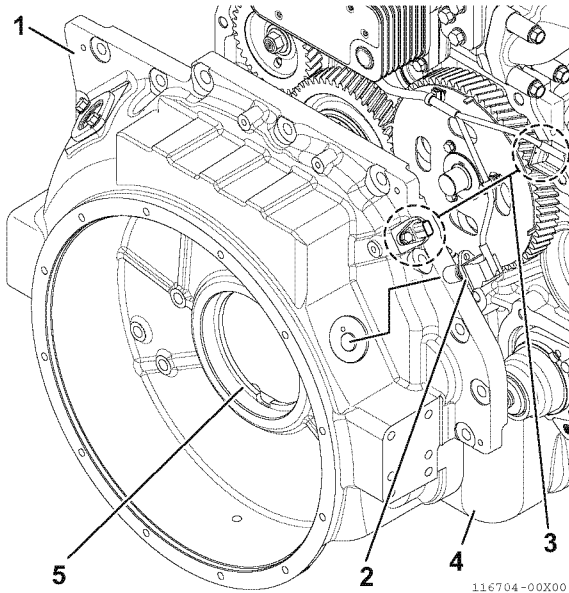
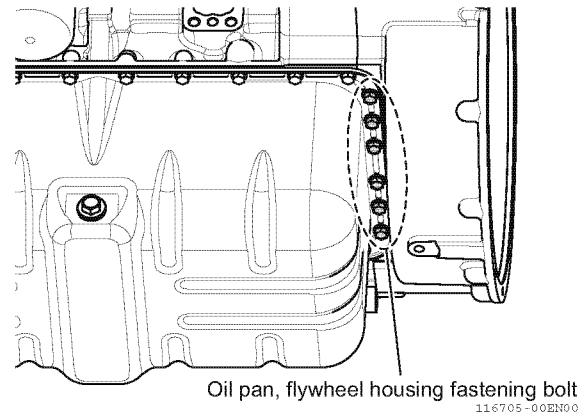

Fig.30-7
Fig.30-8
3. Before removing the flywheel housing (1, Fig.30-7), remove the crankshaft speed sensor (2, Fig.30-7) from the housing, and disconnect the coupler of the camshaft speed sensor (3, Fig.30-7). The flywheel housing is tightened to the cylinder block and oil pan (4, Fig.30-7). First remove the oil pan tightening bolts (6 bolts) (see Fig.30-8), then loosen the bolts that tighten the housing to the cylinder block, and remove the flywheel housing together with the oil seal (5, Fig.30-7).